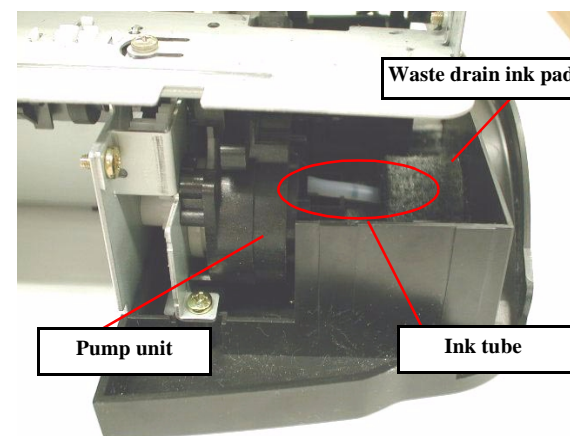

Figure 4-18. Drain ink tube setting position
- When assembling the Waste drain ink pad unit, be sure to set the tip of the waste ink tube in the suitable position of the Waste drain ink pad. Refer to the Figure 4-18